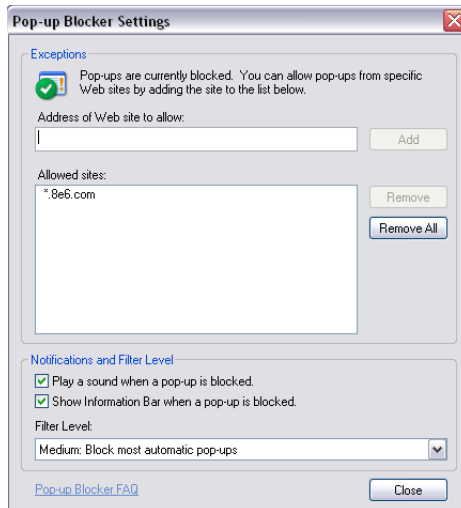

Fig. B-7 Pop-up Blocker Settings
1. Go to the toolbar and select **Tools > Pop-up Blocker > Pop-up Blocker Settings** to open the Pop-up Blocker Settings dialog box (see Fig. B-7).
NOTE: *To view your white list, go to the Pop-up Blocker Settings dialog box (see Fig. B-7) and see the entries in the Allowed sites list box.*